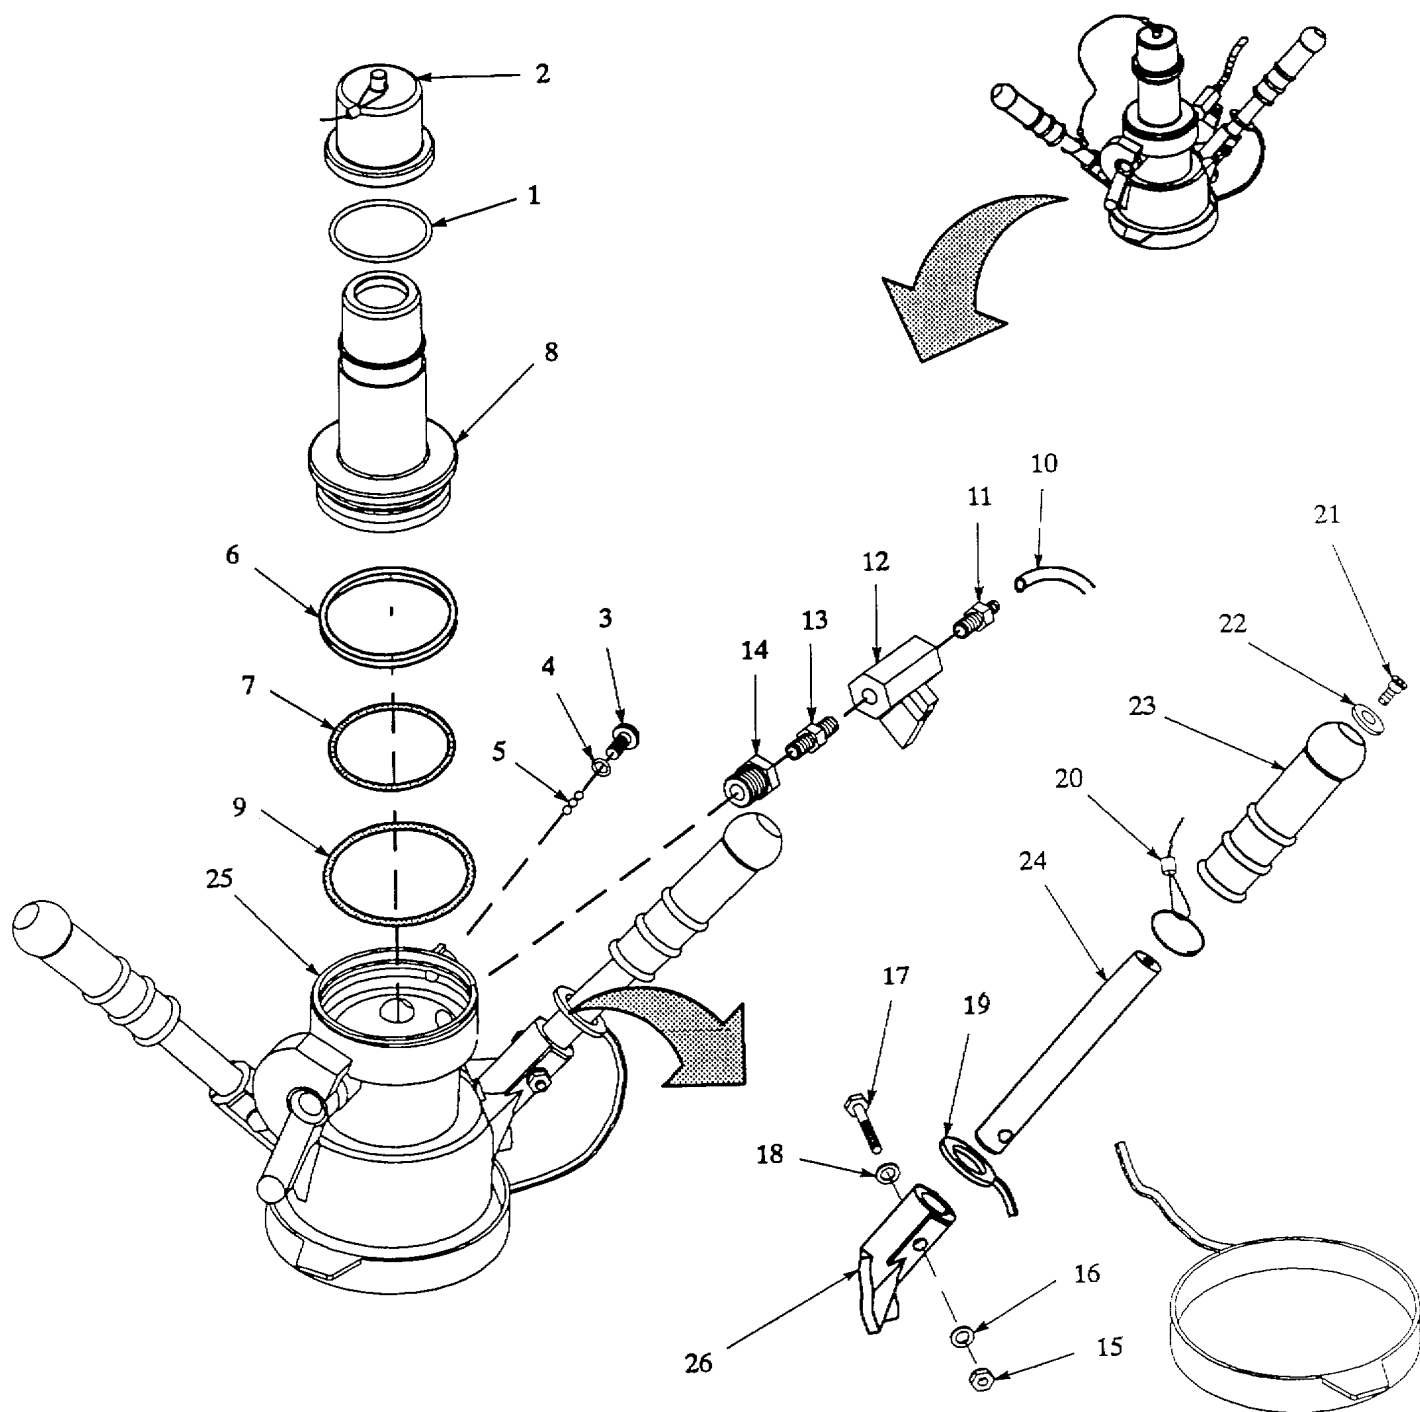

Figure 4-4. Recirculation Nozzle Disassembly.
- a. Disassembly. Refer to figure 4-4.
- (1) Separate dust cap (2) from inlet adapter (8).
- (2) Remove preformed packing (1) from dust cap (2).
- (3) Remove screw (3) and attached preformed packing (4) from body (25).
- (4) Position body (25) so that opening for balls (5) is pointing down.
- (5) Rotate inlet adapter (8) back and forth on body (25) until 39 balls (5) are removed.